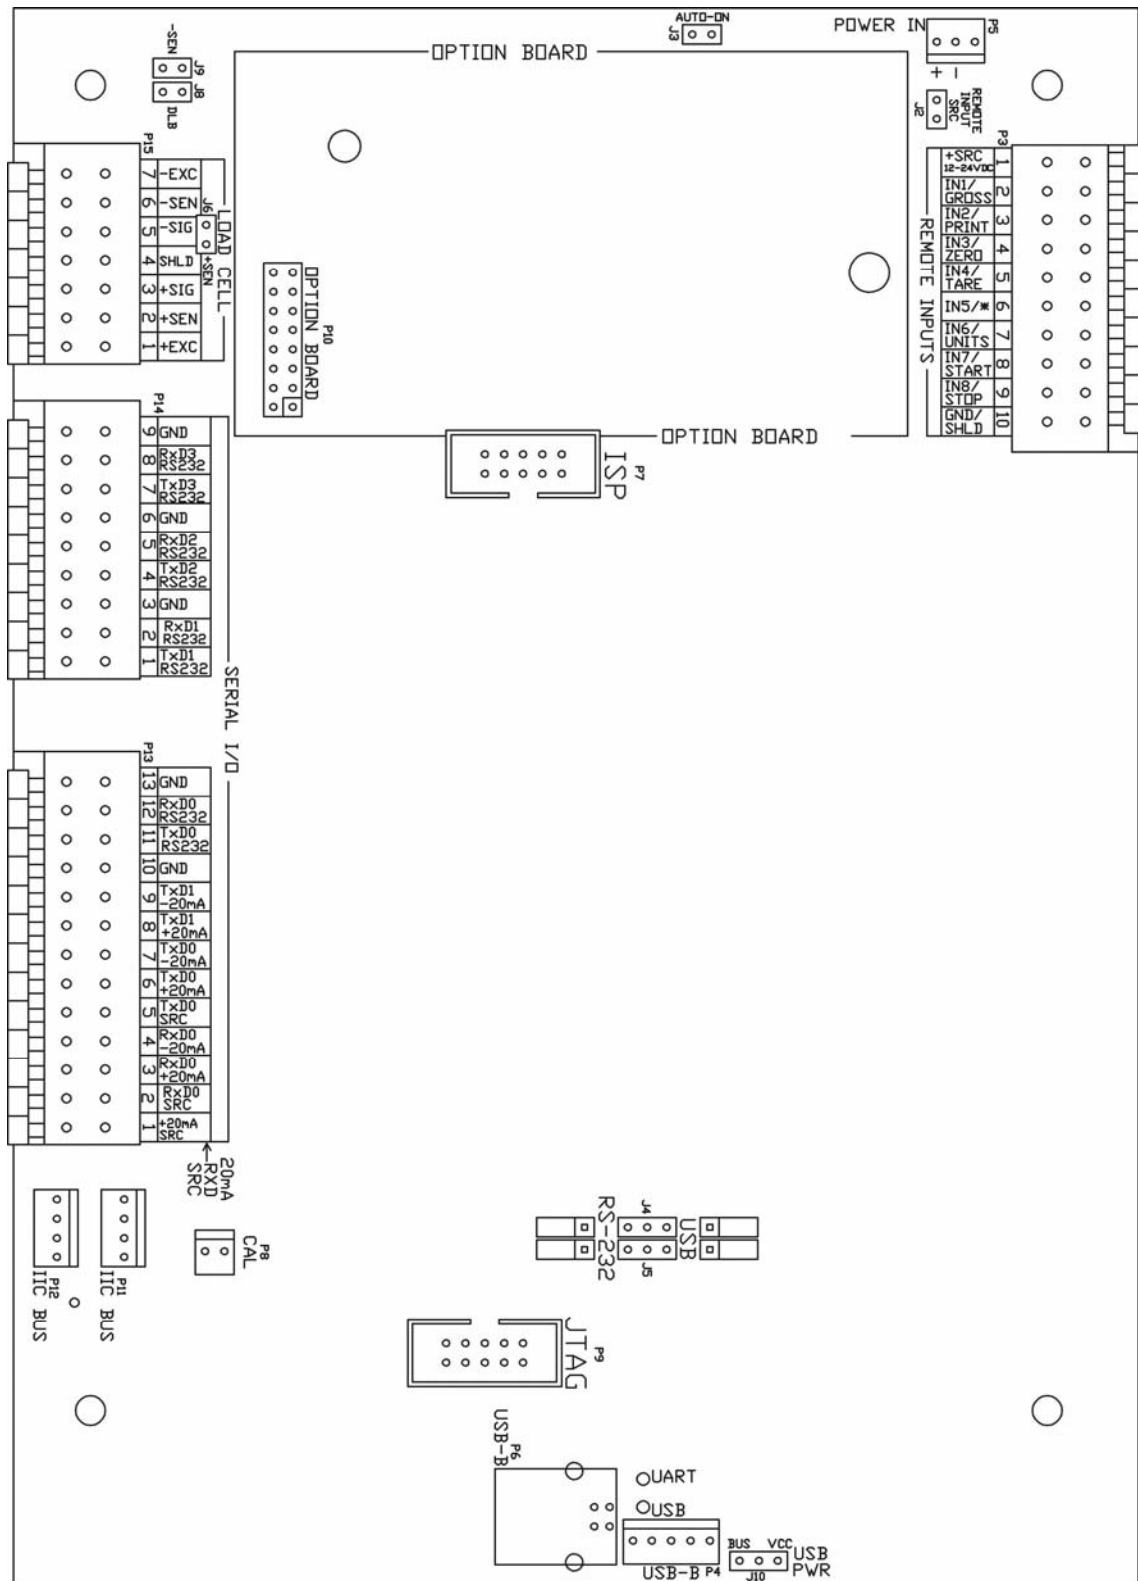

Figure No. 10
*** NOTE:** If the sense leads are NOT used, you must install plug-in jumpers at J6 and J9 adjacent to the terminal block. These jumpers attach the sense leads to the excitation leads. If sense leads ARE used (as in motor truck scales), these plug-in jumpers should be positioned on one plug-in pin only or removed and stored for later use (see Figure No. 10).
4. Connect each of the wires to the Serial Data terminal block (P13 and P14) referring to Figure No. 10 for terminal block locations.
The USB port is enabled with jumpers J4 and J5 (see Figure No. 10) set to the USB position (utilizing the indicator COM3 serial port) and the USB PWR jumper, J10 (see Figure No. 10), set to the BUS position to be powered by the USB host or to the VCC position to be powered by the 205 indicator main PC board. Follow the "Driver Installation Instructions for Indicator's USB Port" in conjunction with the usb2ser.inf file located on the 205 Indicator Installation and Technical Manual CD.
7. Plug the USB cable connector onto the USB-B, P4 header, referring to Figure No. 10 for the location of P4. Tighten the gland cable nut on the USB cable.
4. Plug the USB cable into the USB-B connector P6. See Figure No. 10 for the location of P6.
Included with the I/O are 4 programmable inputs that may be used to remotely (up to 100 feet) initiate various functions within the indicator. These inputs are accessed via a terminal block (P3) on the back of the PC board (see Figure No. 10). The 8 inputs are defined as follows: